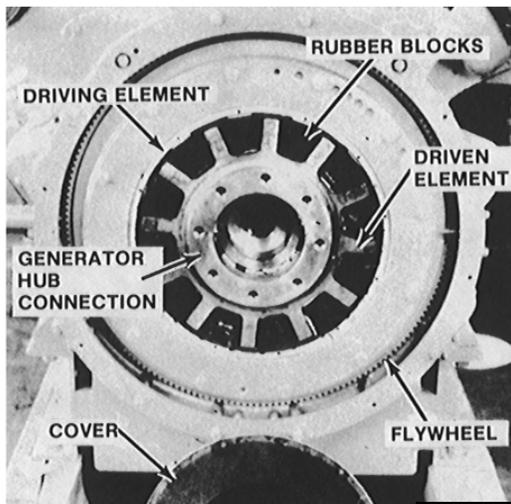

Figure 18
- Viscous-damped couplings are used with remote-mounted driven equipment and two bearing generators. These couplings use an internal gear design with a rubber element between the gears. Silicone grease aids in dampening characteristics. Clearances involved in internal gear design allow accurate alignment measurement to be made without removing the rubber element. Refer to **Figure 18**.